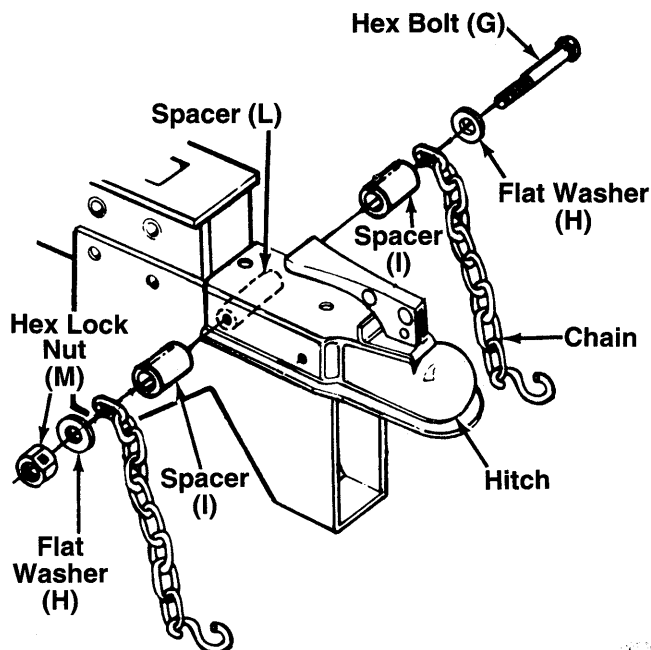

FIGURE 5.
- a. Place one flat washer (H) on hex bolt 4-1/2" long (G), then the end of one safety chain and one spacer 5/8" long (I).
- b. Place the hitch in position on the beam stand as shown in figure 5.
- c. Place one spacer 2" long (L) inside beam stand. Using hole closest to beam, insert the hex bolt with hardware attached through hitch, beam stand and spacer.
- d. Place the other spacer 5/8" long (I) on hex bolt, then the end of other safety chain and flat washer (H). Secure with hex lock nut (M).